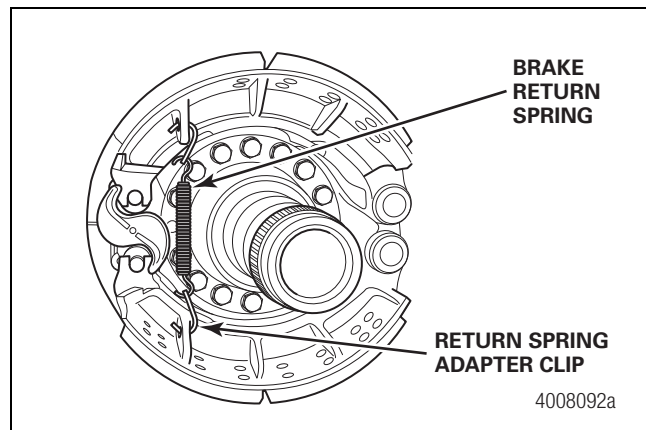

Figure 5.20
15. Install the brake return spring and clips. Figure 5.20.